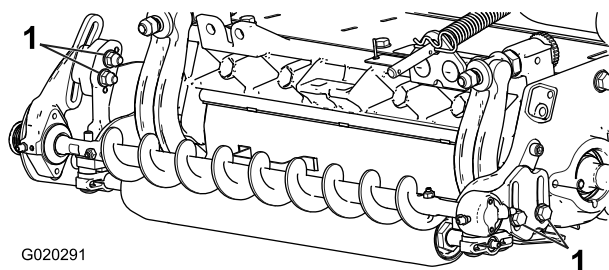

Figure 8
1. Loosen the 2 bolts securing each roller brush bearing housing to the roller brush mounting bracket (Figure 8).